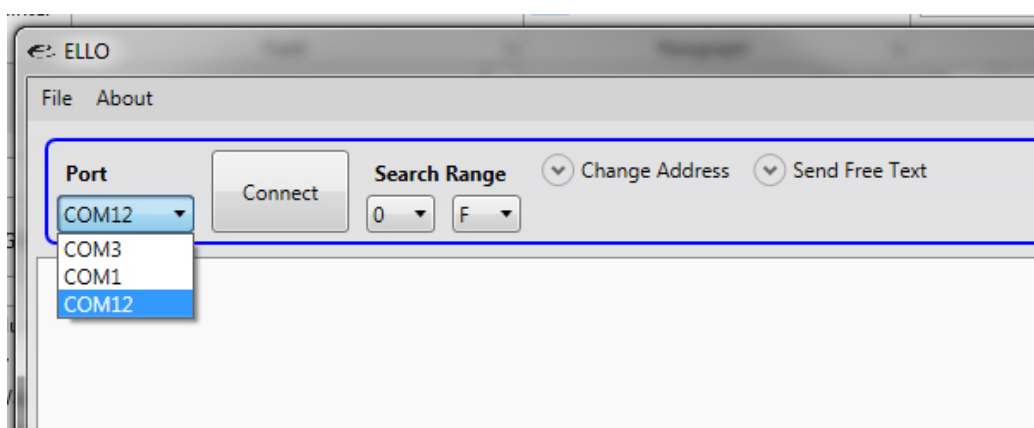

Figure 6 COM port Drop Down Menu
7. In the top left of the GUI panel displayed, select the COM port to which the device is connected (see Figure 6, and click 'Connect'. The software will search the comms bus and enumerate the device.